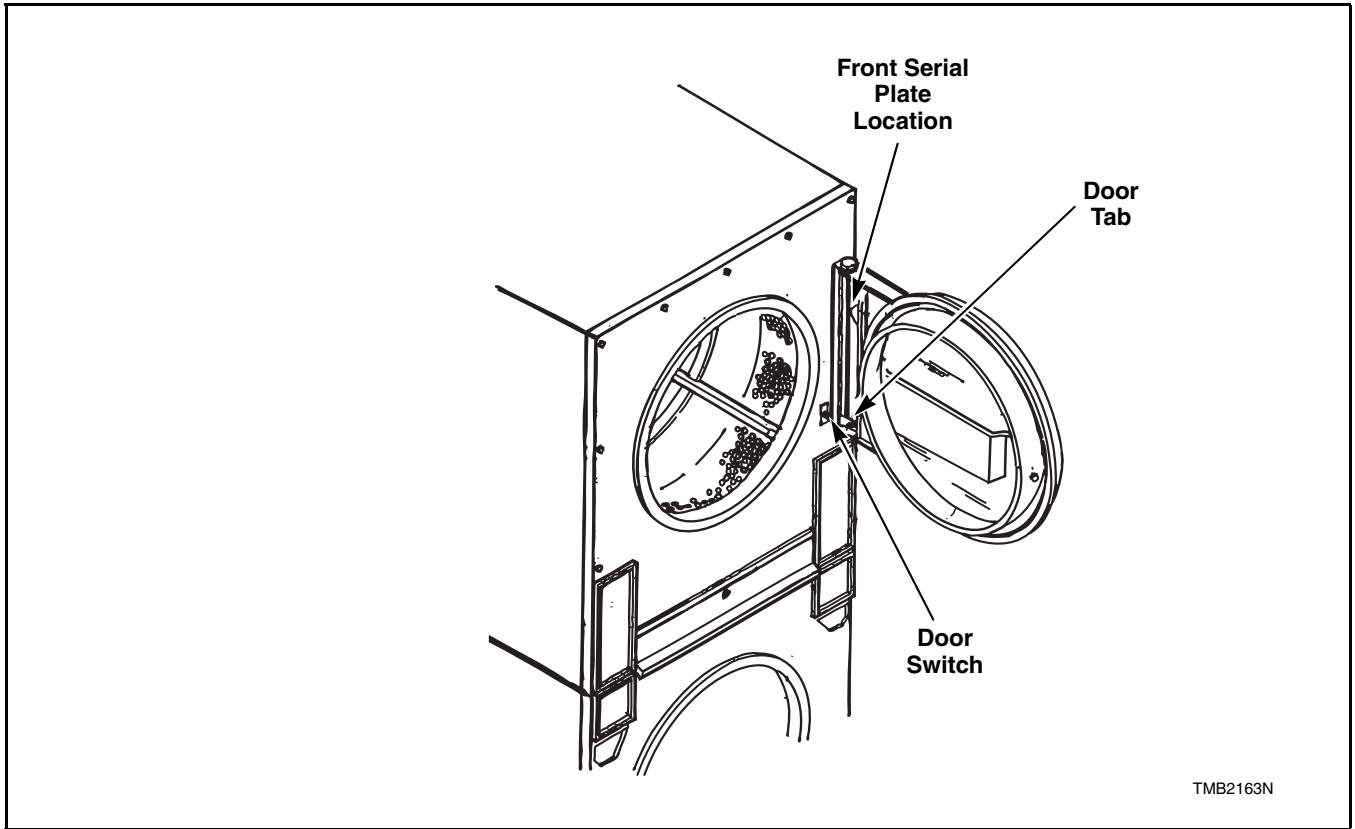

Figure 13
2. Slowly close loading door. When door is two inches (5.08 cm) from being fully closed, the tab on the door should contact the switch plunger and depress it enough to close the switch with an audible "click." Refer to *Figure 13*.